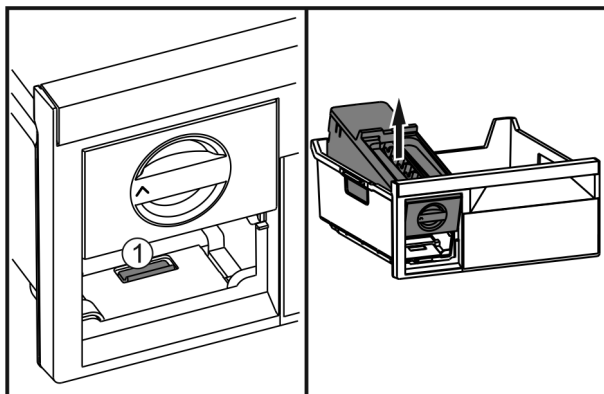

Fig. 47
- Press the lug Fig. 47 (1), lift up the EasyTwist-Ice at the back and take it out of the freezer drawer.